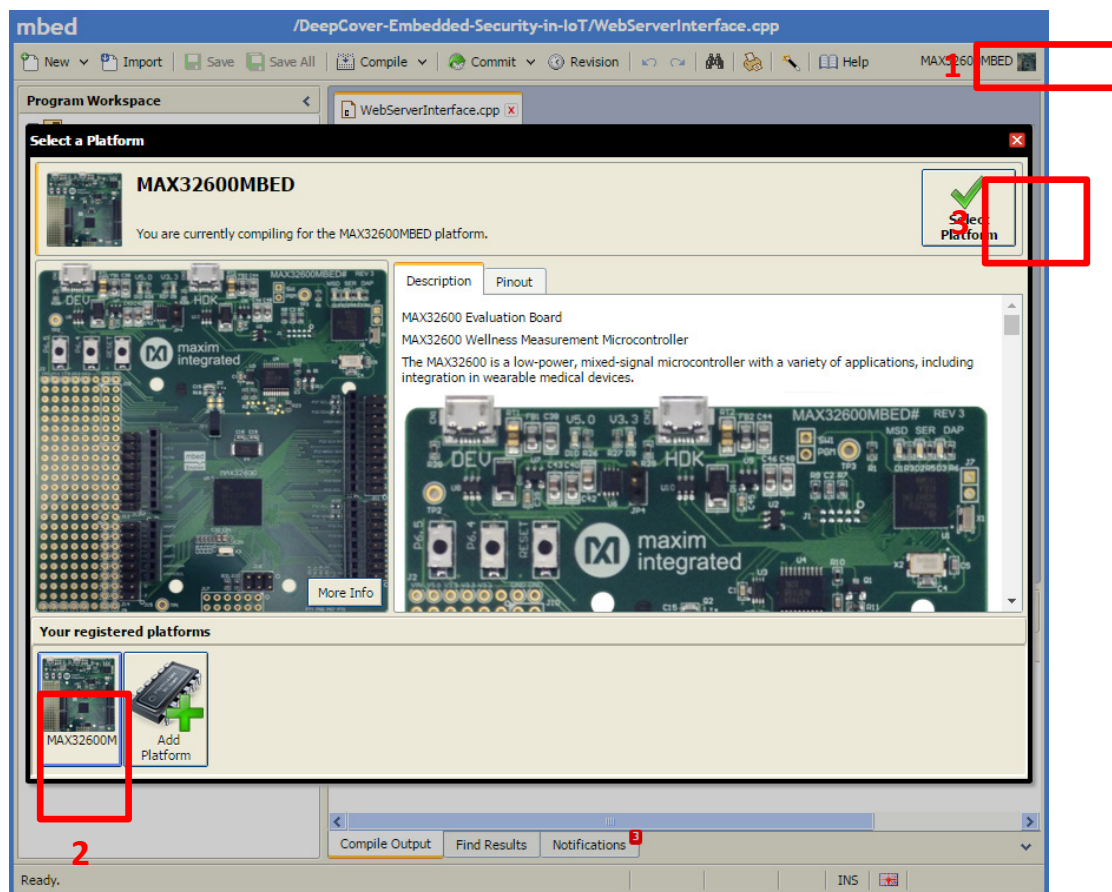

Figure 7. Selecting the MAX32600MBED as the compiler target.
2. Return to the online compiler page, and select the MAX32600MBED as the compiler target by using the following steps (Figure 7).